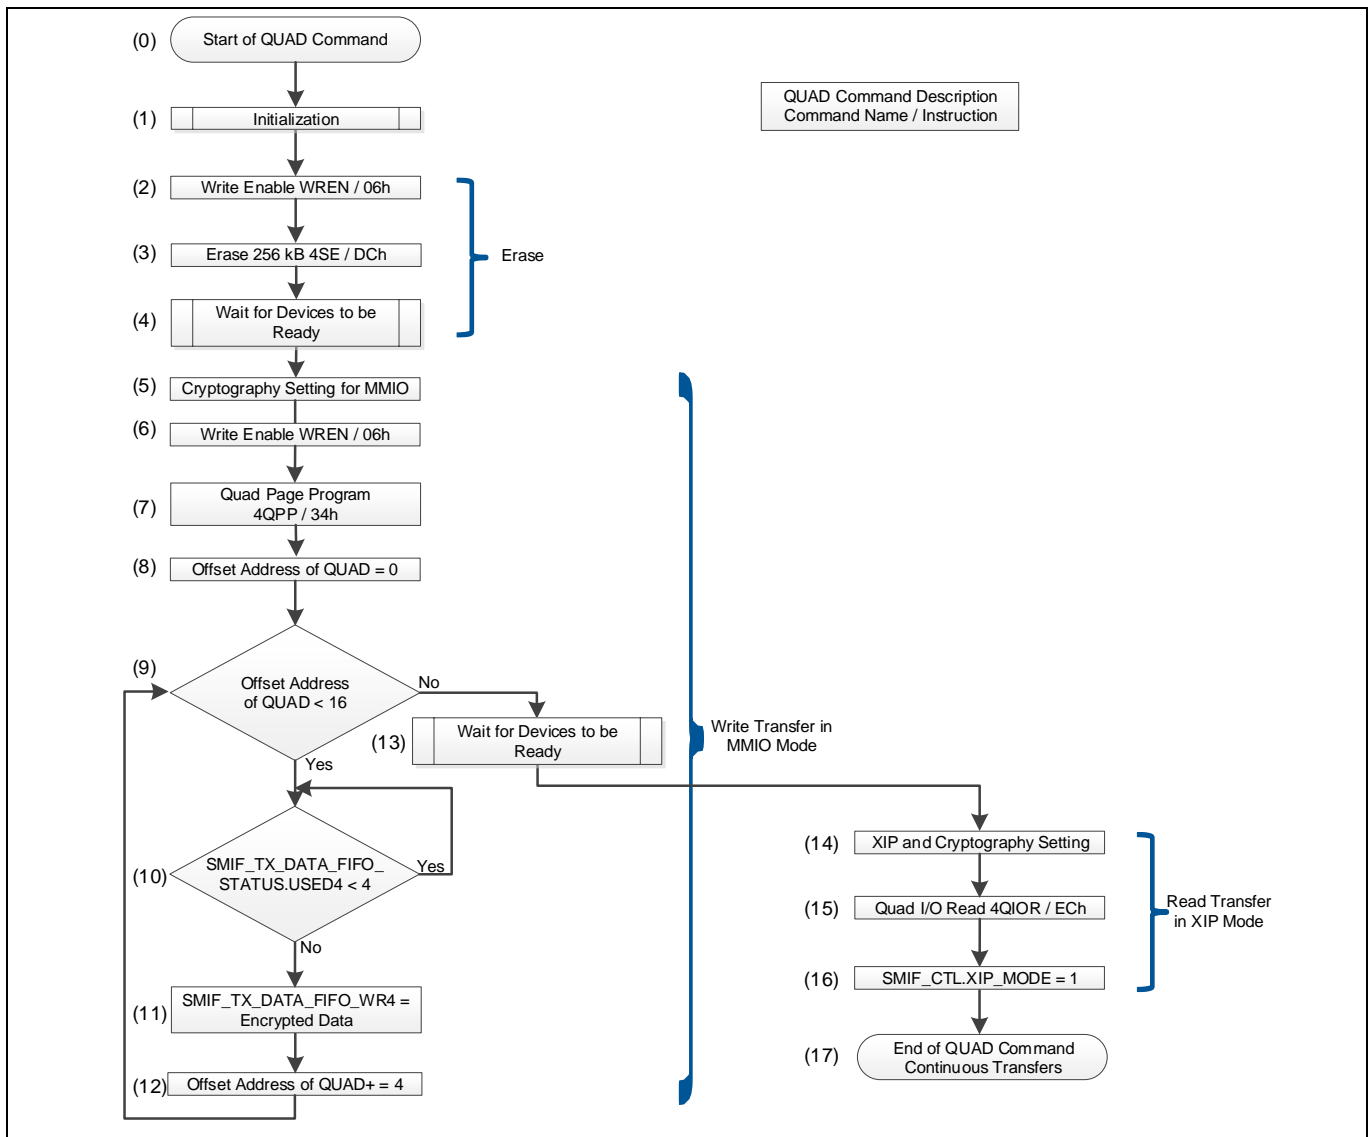

Figure 6 Example of software flowchart using the commands of QUAD
In this use case, erase, write (SDR), and read (DDR) are checked with QUAD SPI flash memory S25FL256S. Figure 6 shows the flow of commands in the memory. This flow writes 16 bytes of data into the devices using dual-quad SPI mode in MMIO mode with cryptography. The 16 bytes of data being written is random data. In the case of read, this flow sets the mode in the devices for quad I/O read (4QIOR ECh) with MMIO mode and read transfer with decrypting on the fly in XIP mode. All commands of QUAD in Figure 6 are dual-quad mode.
In this, SMIF and the devices are initialized as indicated by (1) in Figure 6. Figure 7 illustrates the flow of initialization. In the flowchart, SMIF is initialized and reset is sent to devices for dual-quad.